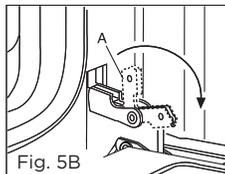

Fig. 5B
2 flip the hinge hooks "A" outwards (see fig. 5B).
- 2 flip the hinge hooks "A" outwards (see fig. 5B).